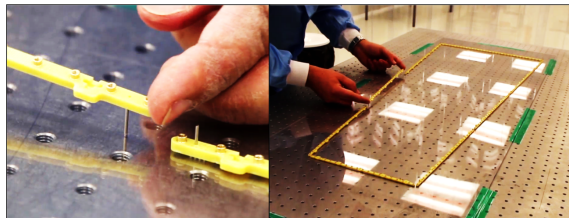

Figure 55: Mounting of the 3 mm internal frames.
Step 6: Put the frames in position all around the trapezoid using the guiding pins (Fig. 55).